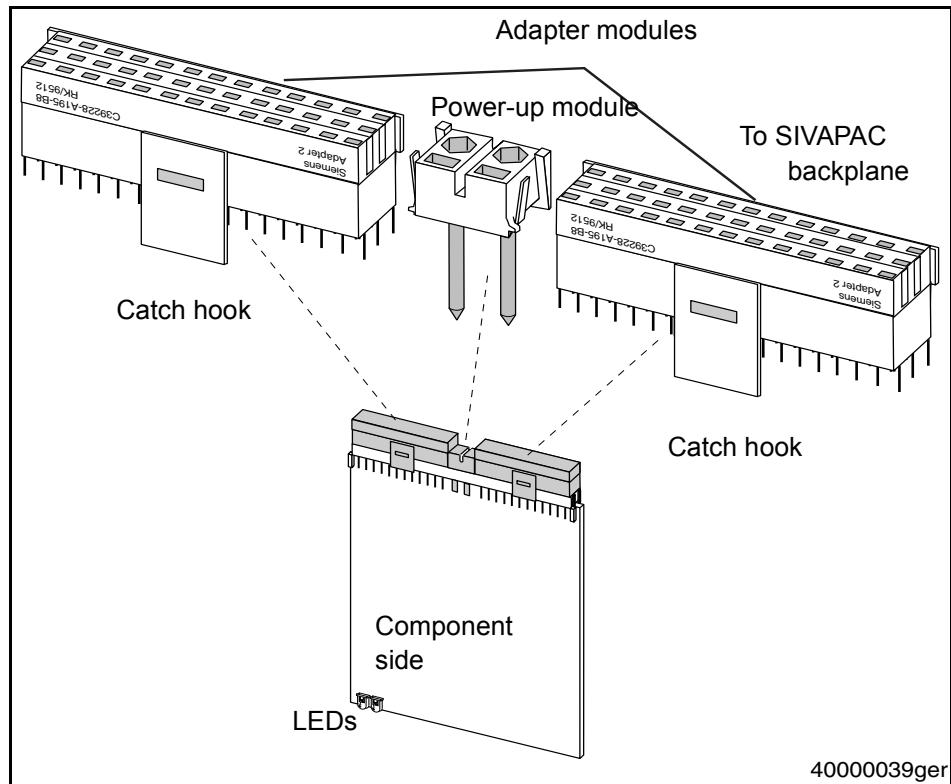

Figure 4
IMPORTANT: The board Adapter 2 comes in three pieces: one power-up module and two adapter modules (see Figure 4).
To install the board adapter 2 (see Figure 4):
2. Insert the power-up module into the middle section of the backplane connector as shown in Figure 4.
4. Position the adapter module over the backplane connector of the board. Ensure that the outer edge of each adapter module corresponds with each outer edge of the board as shown in Figure 4.